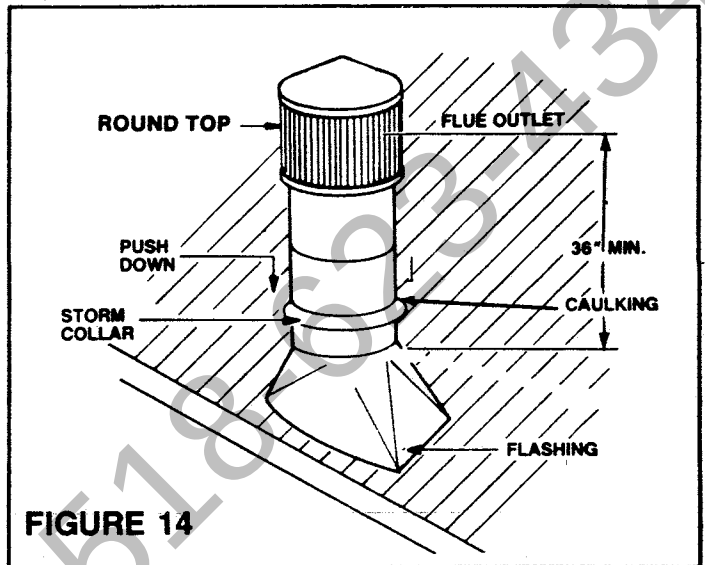

FIGURE 14
STEP 6: Position the flashing over the chimney and flat on the roof. Mark an outline of the flashing on the roof and remove the flashing. Remove all nails within the outlined area (Figure 14).